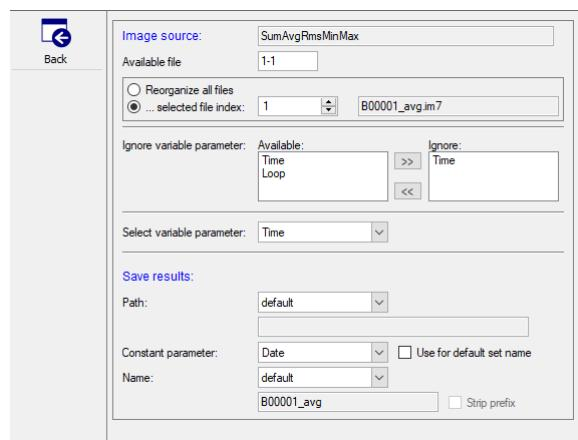

Figure 4.16: Reorganization parameters
3. Select the operation **Reorganize data** and press the **Parameter** button to open the setup dialog (Fig. 4.16).
In the **Reorganize data** dialog of Fig. 4.16 one file of the first data set has to be selected. This file is copied from all selected sets to one new set, e.g. with 10 source sets the result will be 1 set with 10 files. The files are sorted by the variable parameter in ascending order if the parameter is available in the format `..._<PARAMETER>=<VALUE>_...`